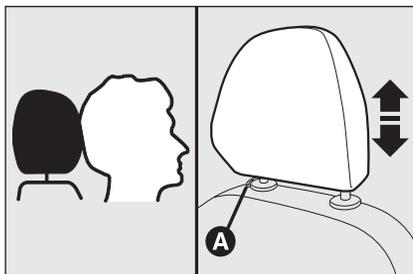

fig. 30
- to lower: press button **A-fig. 30** and lower the head restraint.